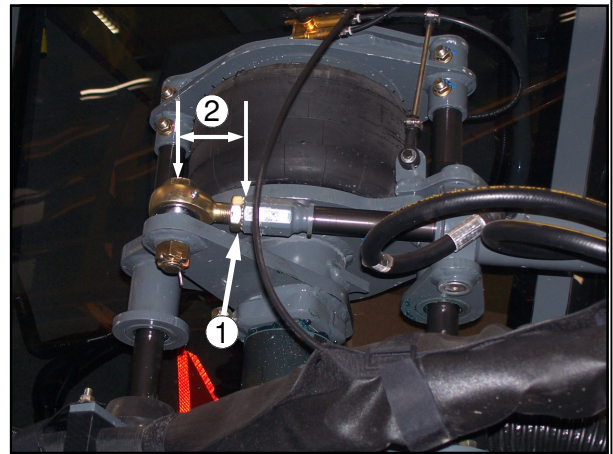

FIG 7.98-1
2. Loosen jam nut (fig. 7.98-1).
3. Screw swivel assembly in or out on steering cylinder until the measurement from the center of the rod end to the collar (fig. 7.98-1, item 2) is the same on both of the front steering cylinders.